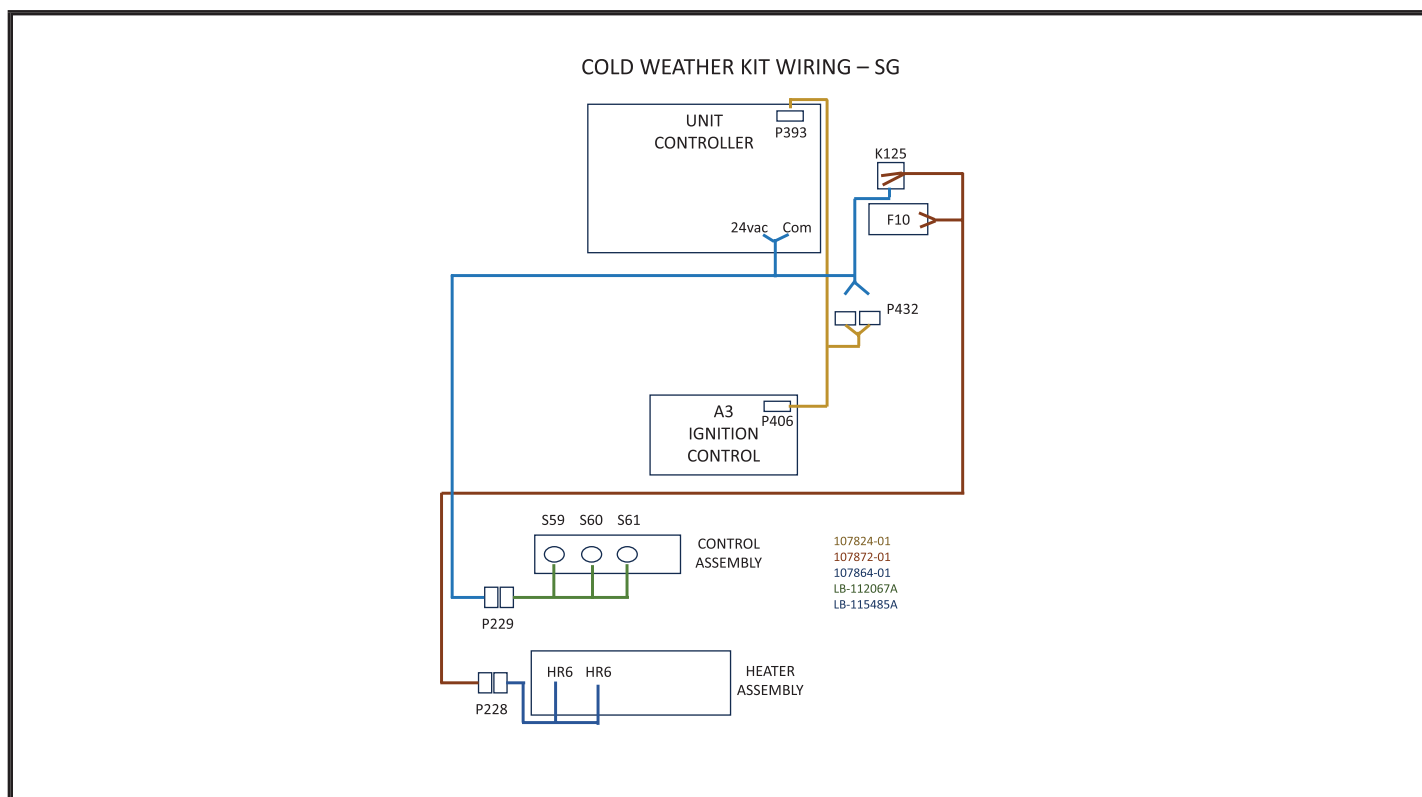

FIGURE 25
- 4 - Make wire connection as shown in FIGURE 25.